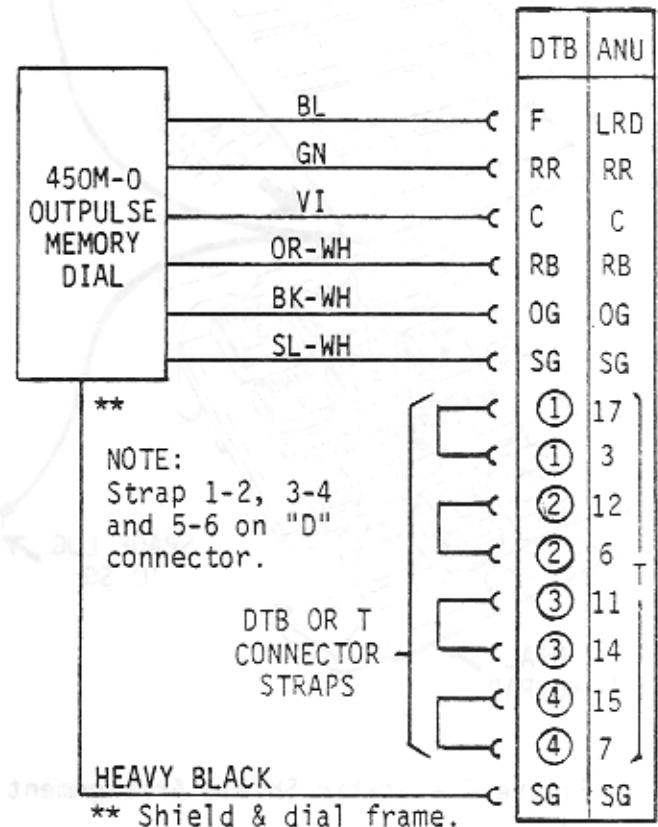

Figure 1 - Dial Connections
2.01 Figure 1 shows the connections between the 450M-0 dial and the DTB terminals.